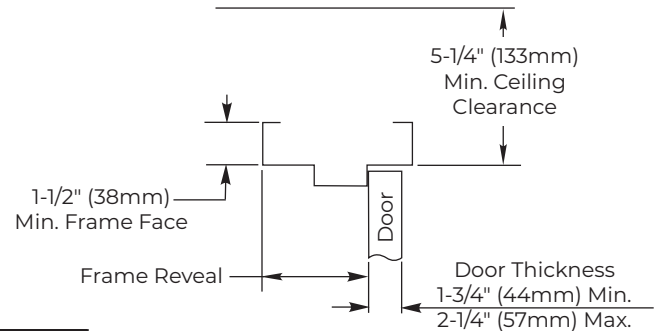

Figure 13
Become familiar with operator components and fasteners. It is recommended that components remain in box until installed. Verify there is minimum ceiling clearance for operator installation before proceeding. (Figure 13)
1. Verify frame reveal width is 2-5/8"-6-3/4" (67mm-171mm). (Figure 13)